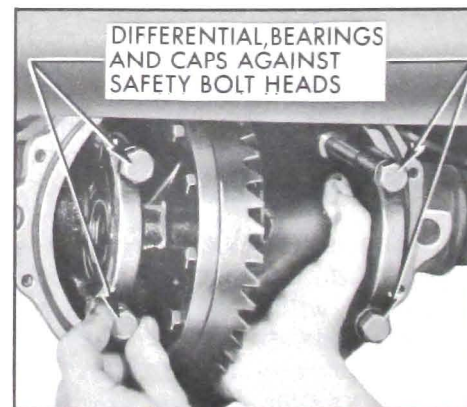

Figure 6-12—Differential Assembly Supported by Safety Bolts
5. When differential is pried past a certain point, it will suddenly fall free. However, safety bolts installed in Step 3 will catch assembly. See Figure 6-12. Support differential with one hand and remove safety bolts. Place right and left bearing outer races and shims in sets with marked bearing caps so that they can be reinstalled in their original positions.